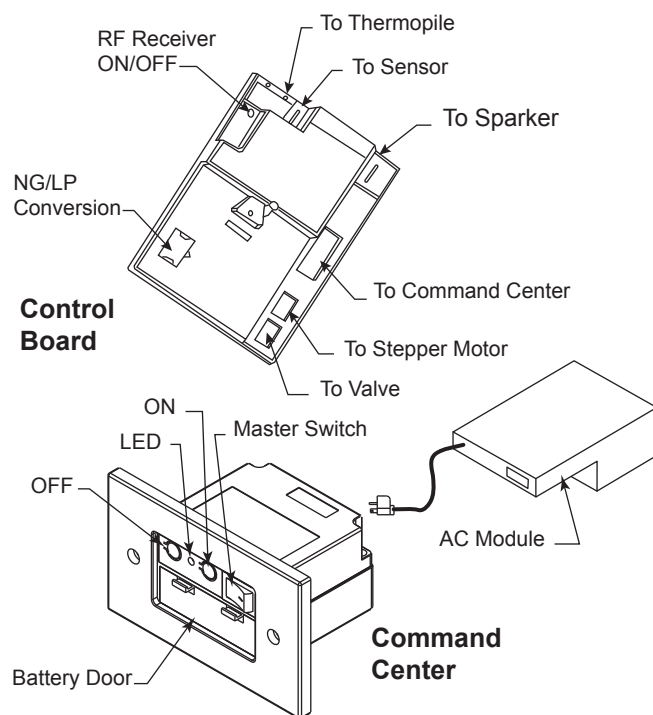

Figure 41 - Signature Command System Components
1. The RF receiver button located on the Control Board must be in the on position before the learn function can begin. Use paper clip to depress button. One beep for RF receiver ON or two beeps for RF receiver OFF will be given as confirmation. Refer to *Figure 41* for location.